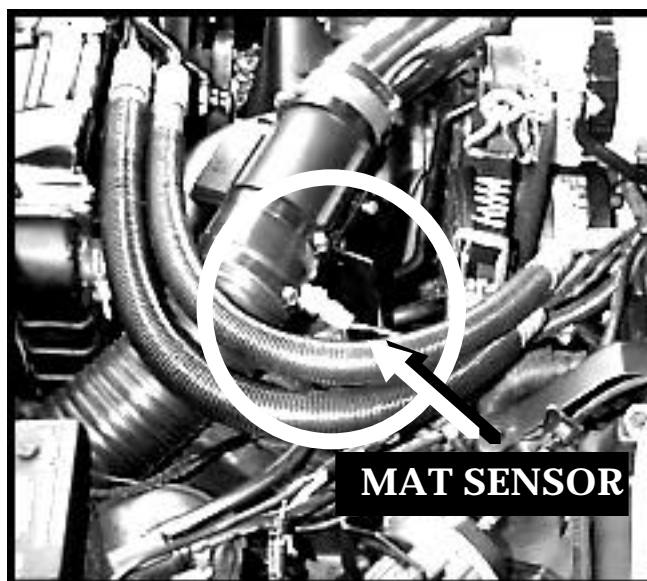

Figure 2- MAT Sensor Location
2. Plug the 2 wire BST-001 MAT sensor connector (see Figure 2) into the ECM connector. The MAT sensor will not be connected any more.